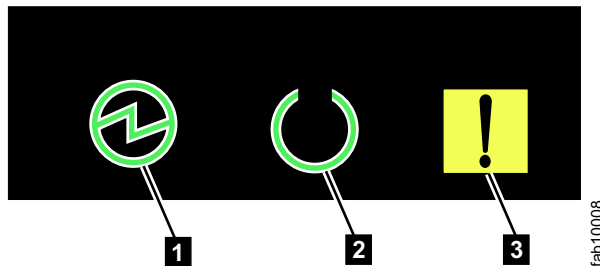

Figure 28. Node canister LEDs
5. From the rear of the control enclosure, check the LEDs on each node canister (see Figure 28).